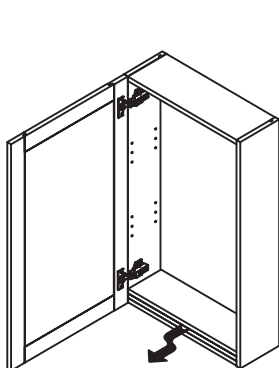

Figure 1
- 1: Once the package is opened, remove the adjustable shelf from bottom of the medicine cabinet and remove the pin. Figure 1.